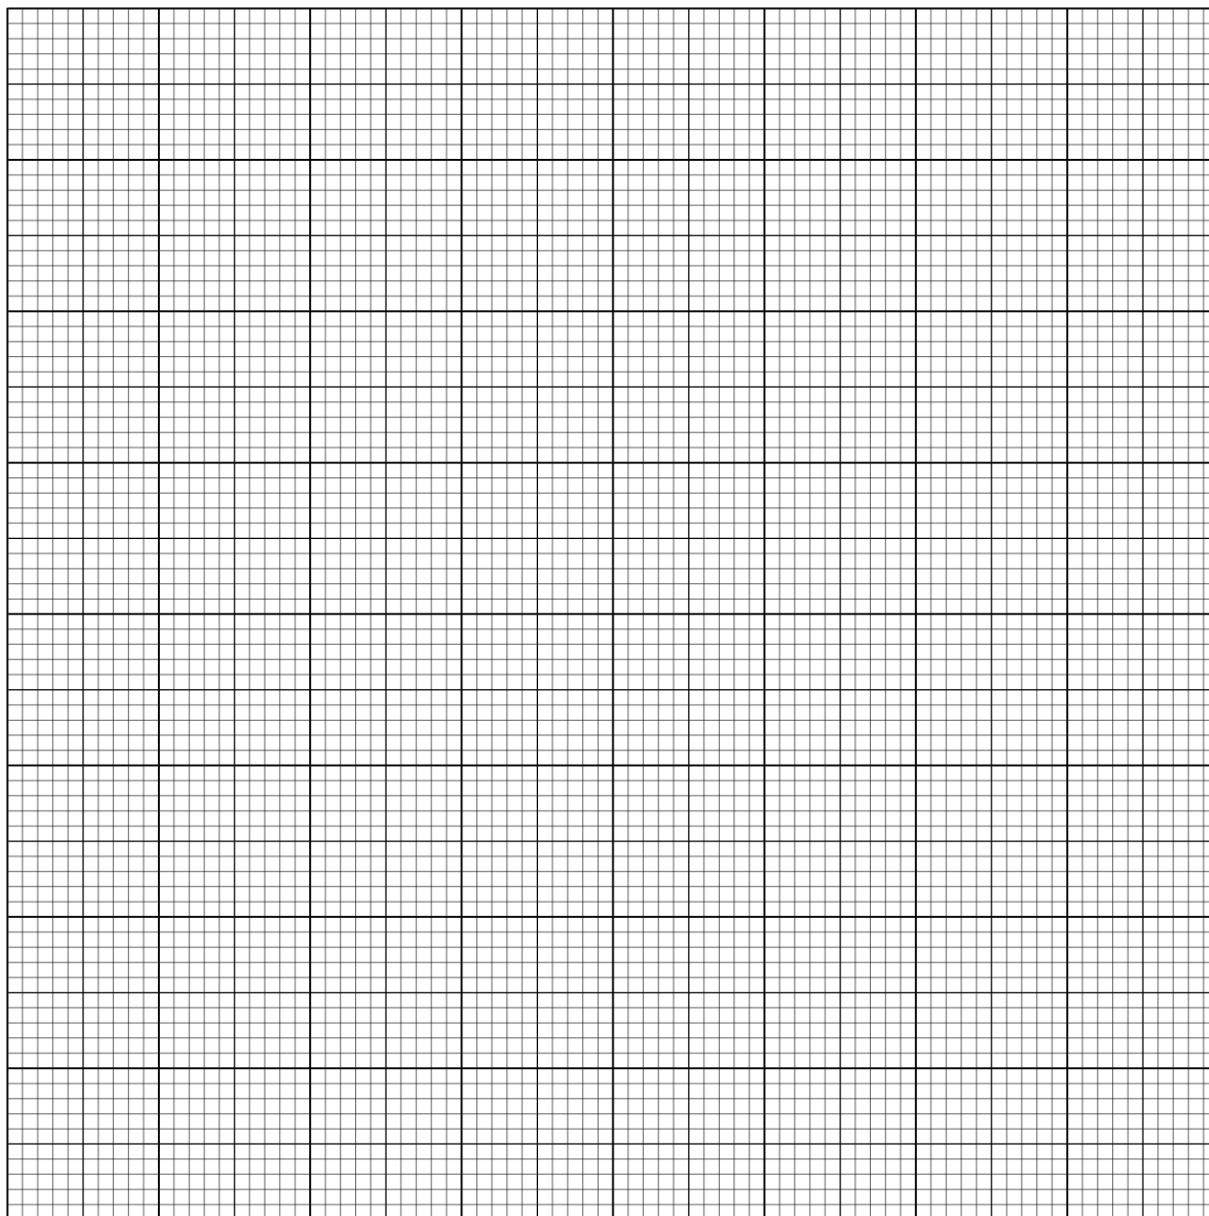

Figure 2.1
- (b) (i) Plot a graph of $\log(1/t)$ on the y -axis against $\log(V_{FA\ 5})$ on the x -axis on the grid in Figure 2.1. Draw the best-fit straight line.